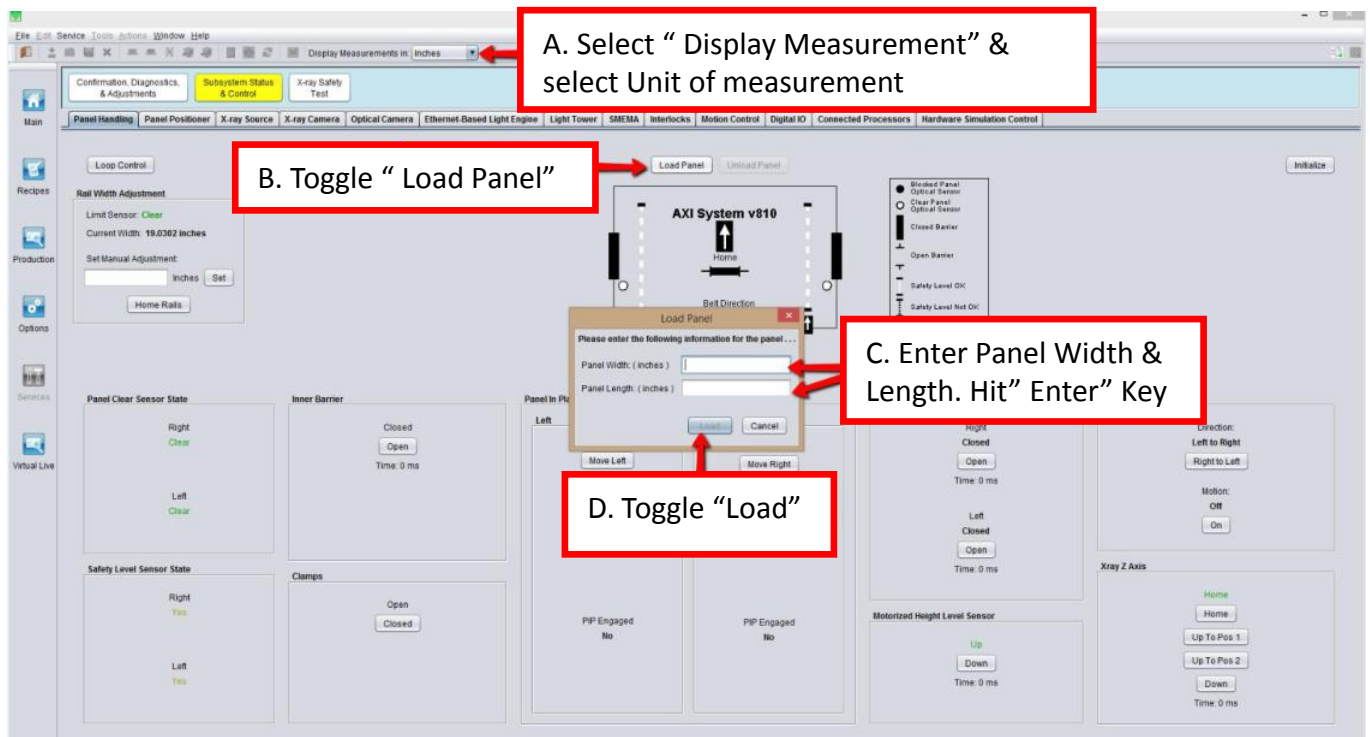

Figure 18 Panel Handling
14. Set the parameters as shown in the Figure 18 and click Load Panel.